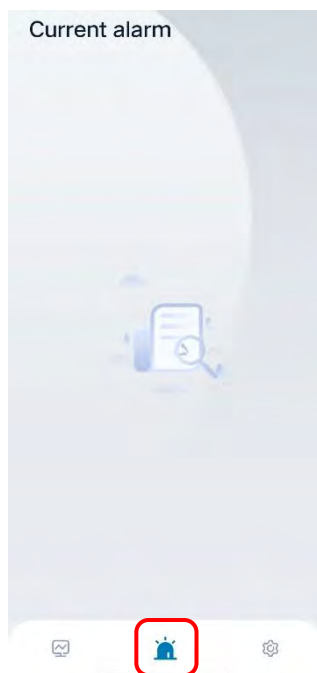

Figure5-17 Alarm info page
- Tap the bottom icon  , you can view the current alarm info of the liquid cooling unit, as shown in Figure5-17.